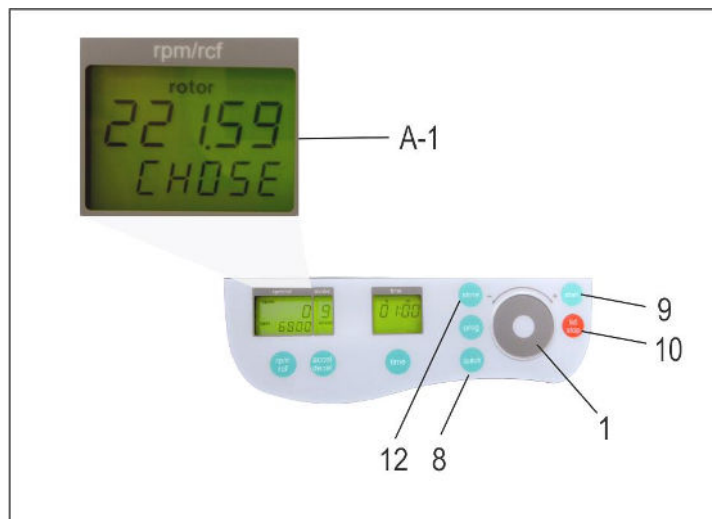

Figure 2
Switch on the unit and open the lid. Now simultaneously press the keys, "lid/stop" (10) and "quick"(8). In the display, "rpm/rcf" (A-1), appears the previously selected rotor type, i. e. "221.59". Now the buttons can be released. With the controle field (1), choose the previously used rotor, (see Figure 2). Select the data in the unit and press the "start" (9) or "store" key. Inside the display, (A-1), the word "store" appears, as the confirmation.